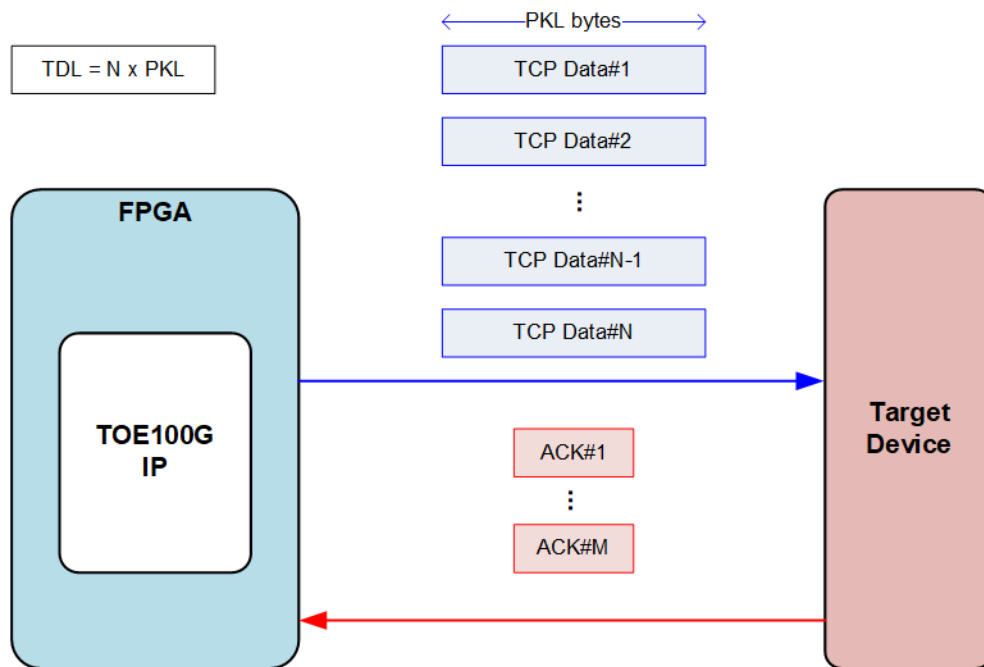

Figure 15: TCP packet when TDL = N times of PKL
When TDL value is equal to N times of PKL value, the data from user is split to N packets and forwarded to the target device, as shown in Figure 15. If the target device returns ACK packet to be response for every TCP packet, there are N ACK packets in the network system. To improve network performance, the several ACK packets are combined to be one packet. This technique is called TCP delayed ACK. Therefore, the numbers of ACK packet returned from the target device (M) may be less than the numbers of data packet from TOE100G IP (N) when running Send command.